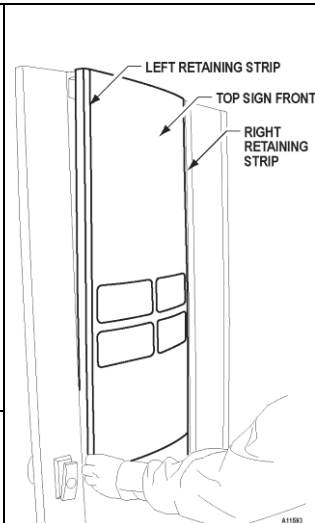

Figure 6c. Remove Top Sign Front
3. Loosen Retaining Strip on the left side of the Top Sign Front (on the front of cabinet door). Remove the Retaining Strip and Top Sign Front assembly. See **Figure 6c**. *(This is most easily done by applying outward pressure on the wing nut screws on the inside of the door.)*
7. Insert the right edge of the Top Sign Front into the slot of the right side Retaining Strip. See **Figure 6c**.
8. Slip the left side Retaining Strip over the left edge of the Top Sign Front. Push the Retaining Strip back into place. See **Figure 6c**. *(To accommodate the rounded front design, carefully bow the left edge of the assembly to the right until you are able to press the three retaining screws back into position.)*